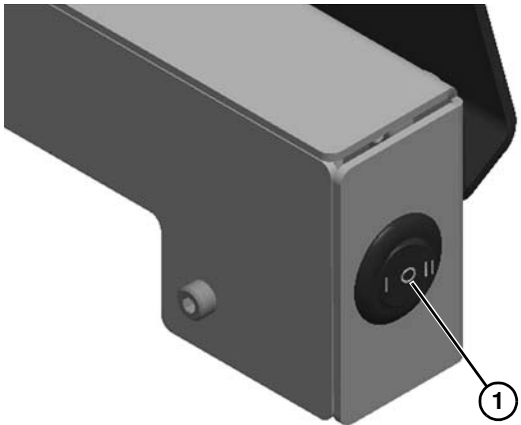

Figure 29
3. The toggle switch (Figure 29, item 1) on the side of the controller provides additional controls.